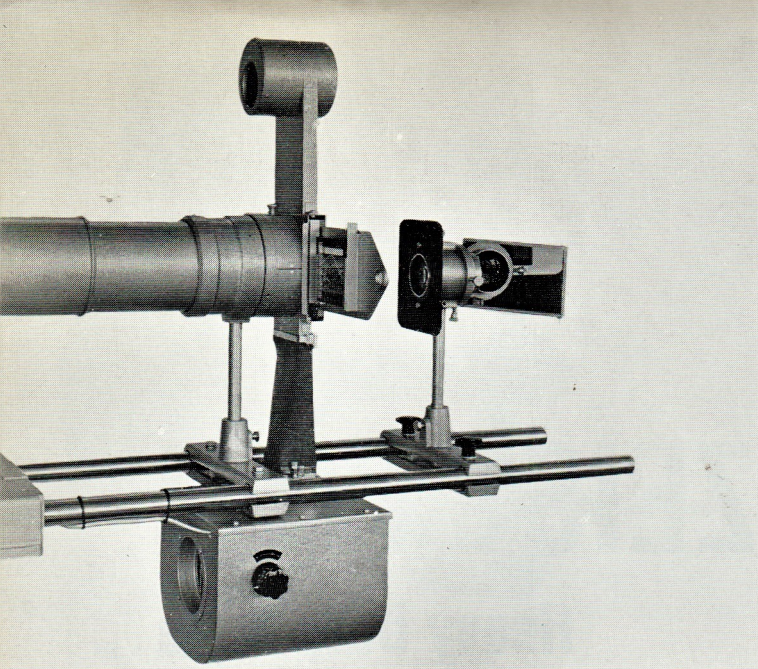

Fig. 2 Slide support with blower and mirror
by mounting an angular mirror in front of the lens (fig. 2)
The heat concentration in the picture gate due to the high luminous output is reduced by the combination of a COOL LIGHT MIRROR with a HEAT REFLECTION FILTER as well as by the strong air blast of a BLOWER (fig. 2). Thus, the slide is sufficiently cooled, even during prolonged projection periods. — The number of revolutions of the blower is adjustable and, furthermore, the blower is equipped with a sound absorber and consequently operating noiselessly.
- an angular mirror (fig. 2)